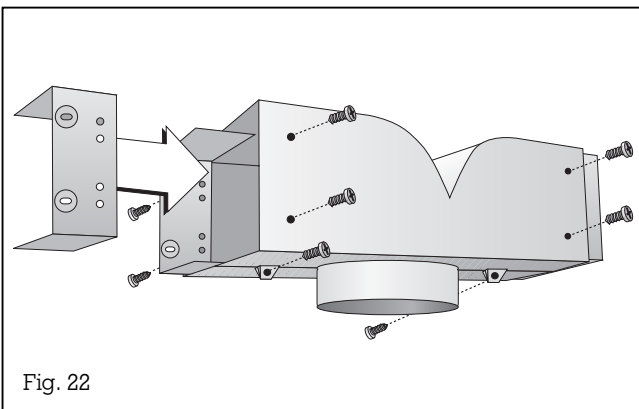

Fig. 22
**Circulating air mode only:** assemble the circulating air switch module and fix it to support frame (Fig. 22 and 23). Cut the flexible air pipe to the required length and fix it to the extractor hood.